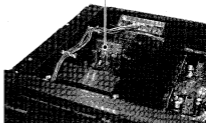

Figure 3.
5. Unsolder the sub heat sink from the power supply PC board. (Figure 3)